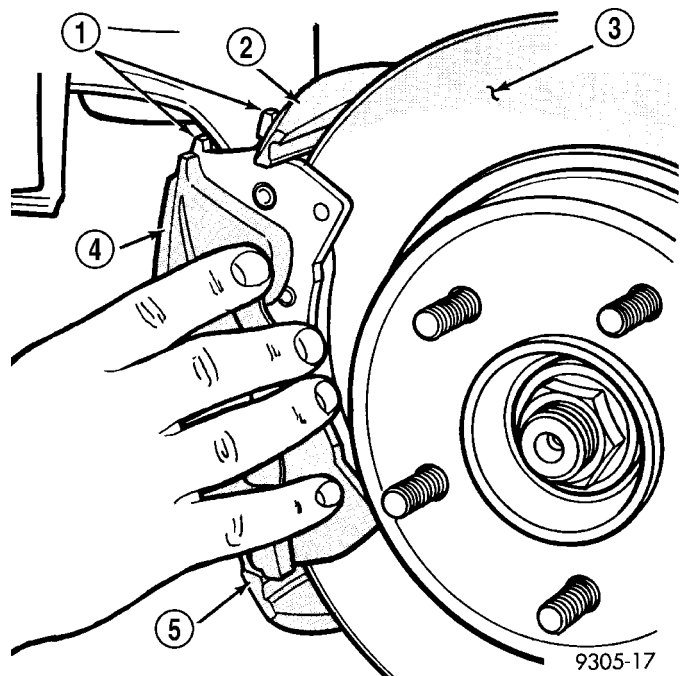

Fig. 12 Caliper Removal/Installation
(4) Remove caliper assembly from steering knuckle. Proceed by first rotating top of caliper away from steering knuckle, then lifting caliper off bottom machined abutment on steering knuckle (Fig. 12). Take care not to lose the two rail shims.
(4) Remove caliper assembly from steering knuckle. Proceed by first rotating top of caliper away from steering knuckle and then lifting caliper off bottom machined abutment on steering knuckle (Fig. 12).
(7) Carefully position caliper and brake shoes over rotor by reversing the removal procedure (Fig. 12).
(6) Carefully position caliper and brake shoes over rotor by reversing the removal procedure (Fig. 12).